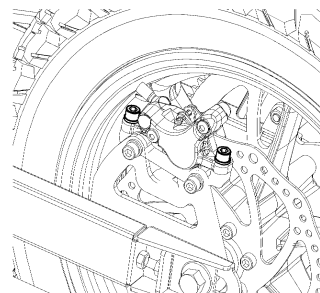

Fig 1
1. Loosen the brake caliper adjusting screws (seen below in Fig1)
5. Hold the brake on and snug the caliper mounting bolts in Fig 1 below.